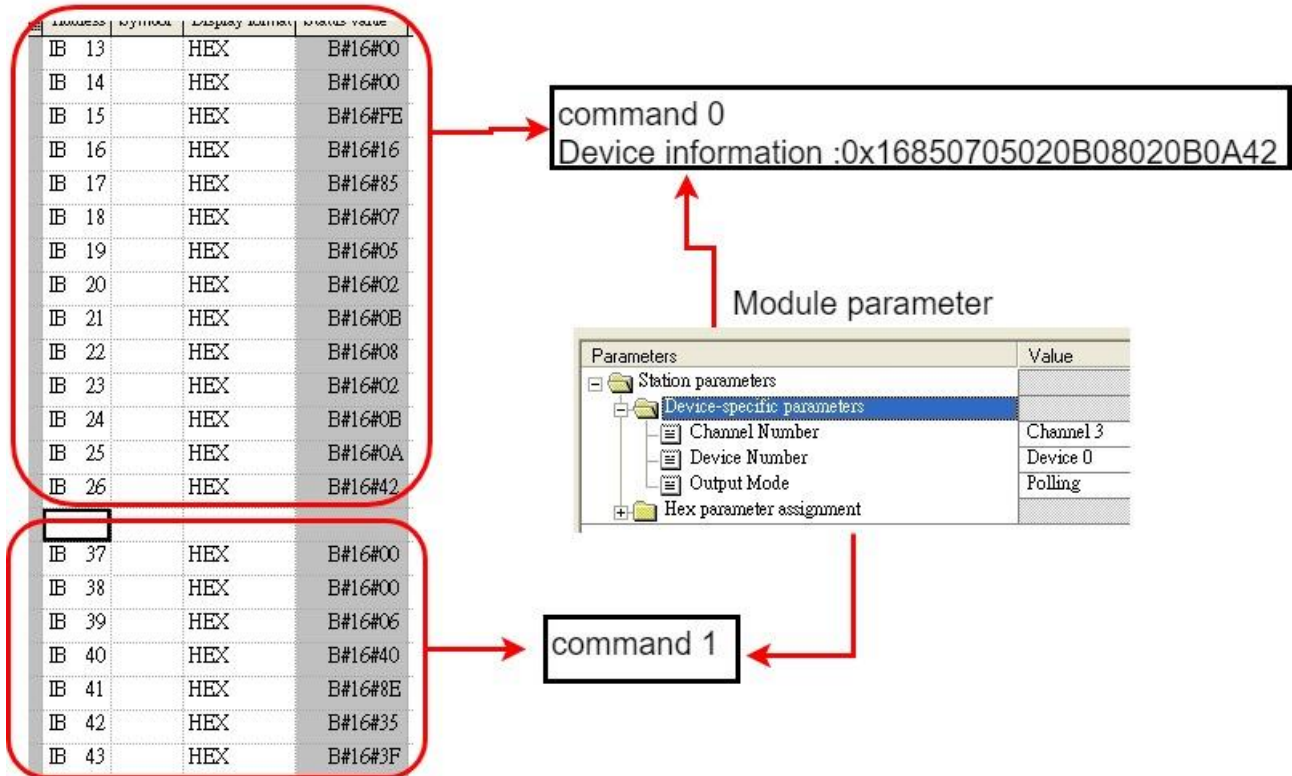

Figure75 After replacing HART slave device status
Step 3: When GW-7557 detects and saves the new HART slave device information, GW-7557 will restart once. If GW-7557 doesn't send diagnostic messages (Receive TimeOut), it means that auto detecting information is completed, as shown in *Figure 74*. As shown in *Figure 75*, command 0 updates HART slave device information.